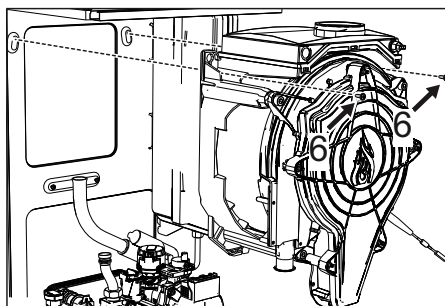

fig. 49
- Remove the 2 **top screws "6"** securing the exchanger to the frame (fig. 49)